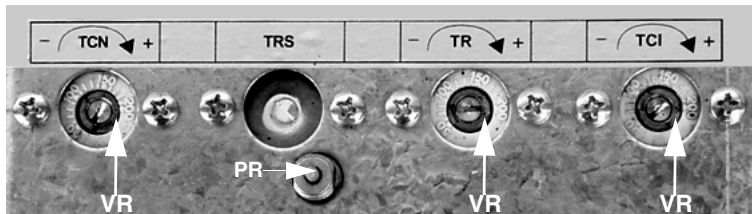

Fig. 16
#### TCN - Oil enabling thermostat (Fig. 16)
#### TRS - Resistor safety thermostat (Fig. 16)
#### TR - Resistor thermostat (Fig. 16)
#### TCI - Installation enabling thermostat (Fig. 16)
- 13 move cam III towards the minimum to make the actuator move towards the low flame until the two bearings find the adjusting screw that refers to a lower position: screw **V** to increase the rate, unscrew to decrease, in order to get the pressure as showed on diagram on Fig. 16, according to the requested rate.